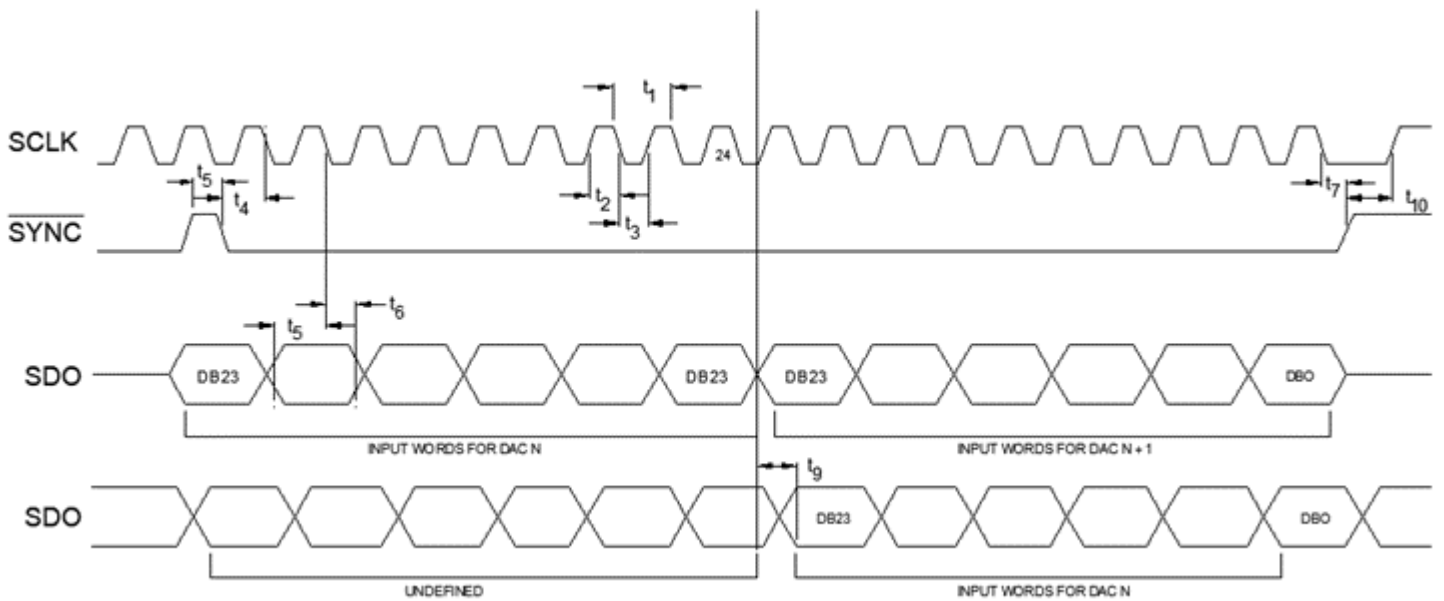
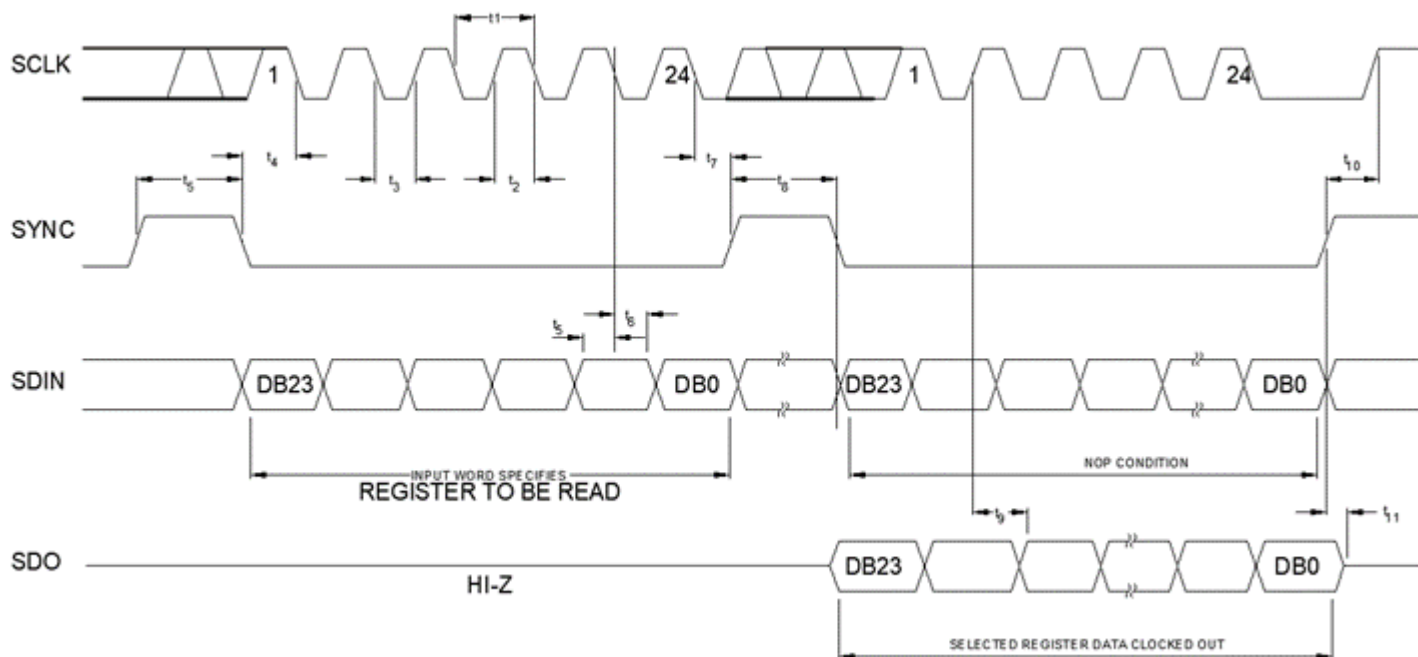

FIGURE 7. Daisy-Chain Timing Diagram.
FIGURE 8. Readback Timing Diagram.
- 20/ All input signals are specified with tR = tF = 1 ns/V (10% to 90% of VDD) and timed from a voltage level of (VIL + VIH)/2. See Figure 7 and Figure 8. VDD = 2.7 V to 5.5 V, 1.62 V ≤ VLOGIC ≤ 5.5 V; VREF = 2.5 V. All specifications TMIN to TMAX, unless otherwise noted. VDD = 2.7 V to 5.5 V.